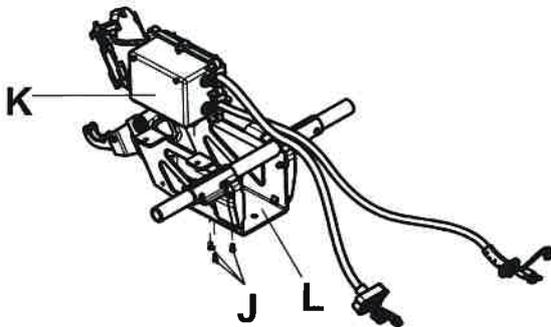

Figure 93 – Remove the HBC enclosure screws
23. Using a T25 Torx driver, remove the three screws (J) that secure the HBC enclosure assembly (K) to the bird cage (L) (Figure 93). Save the screws.